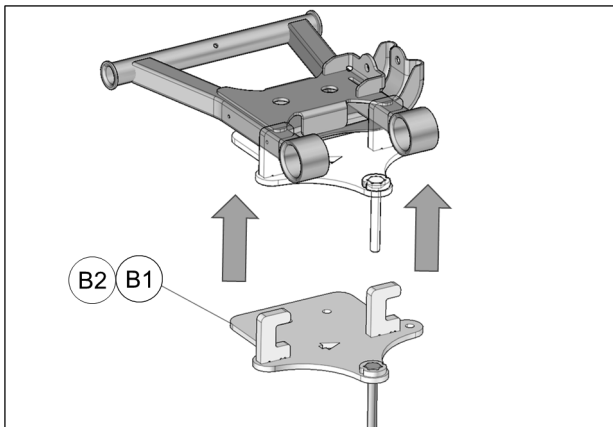

Fig. 6
5. Install anchor bracket (**B1-B2**) under lower suspension arm; C-shaped openings on bracket must be located over suspension arm tubes. See Fig. 6